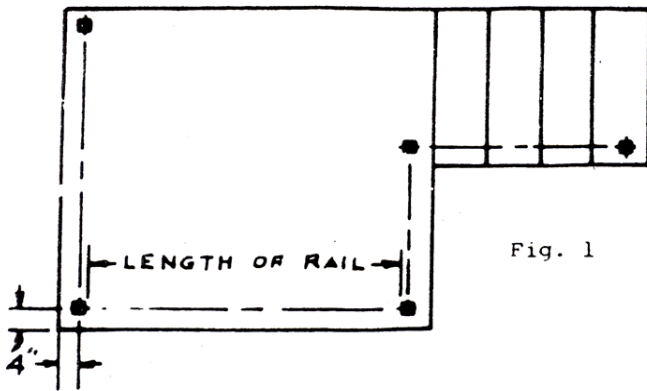

Fig. 1
1. Locate posts on platform and steps as indicated in Figure 1. The center of each post should be 4" from edge of platform or step. Drill Newell post on underside of flange using indentations as guide. Use 1/4" bit. (at least two holes necessary)
6. Attach rails to post with two (2) No. 8 x 5/8" stainless steel self-tapping screws. (Furnished in connector package.) Top rail should be 2" below top of post. Holes in straight connector will serve as guides for drilling (4) four 7/64" holes. Posts can be used to join two or more sections together and to make right angle corners.